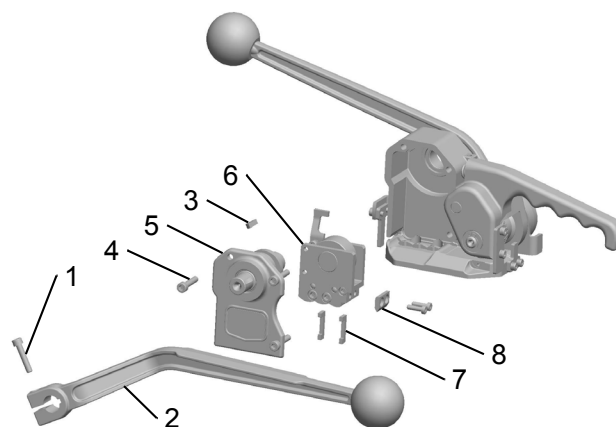

Fig. 12
- Remove the screw (Fig. 12/1) and the lever (12/2).
- Using pliers, remove the woodruff key (12/3) from the shaft.